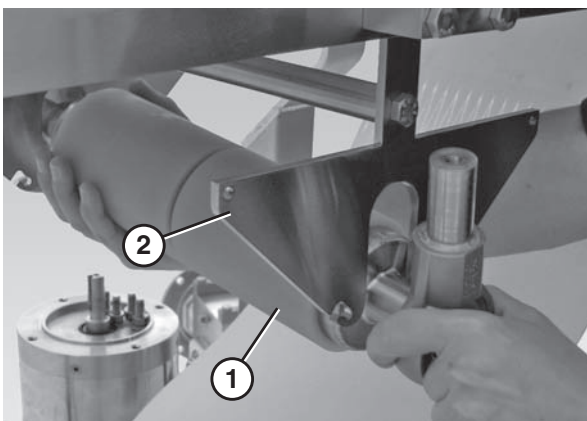

Figure 65
13. Lower the end of the drive shaft spindle (Figure 65, item 1) until it is clear of the side plate (Figure 65, item 2) and remove it.